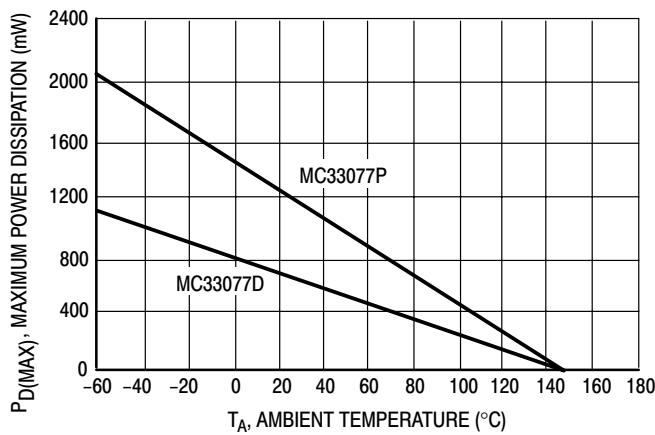

Figure 2. Maximum Power Dissipation versus Temperature
2. Power dissipation must be considered to ensure maximum junction temperature (TJ) is not exceeded (See power dissipation performance characteristic, Figure 2).